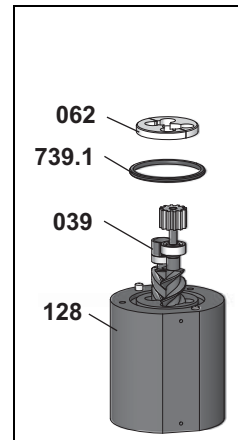

Fig. 2
3. Remove the spacer **062** and o-ring **739.1**, pull the screw set together with distance sleeve **039** from the measuring housing **128**. Take the combination into account to ensure subsequent assembly, see Fig. 2, page 29.
- Insert the o-ring **739.1** into the measuring housing. Lay on the spacer **062**, ensuring that it is positioned correctly, see Fig. 2, page 29.